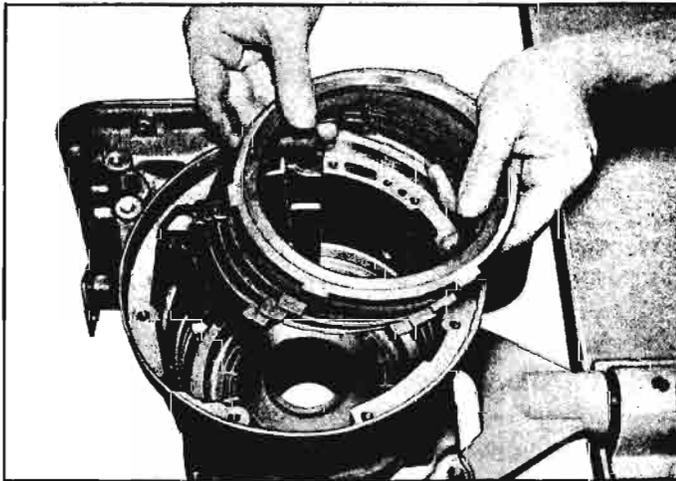

Fig. 6E-46—Installing Reverse Clutch Plates
5. Install reverse clutch plate retainer ring in such a manner so that the open ends of the ring are at the 12 o'clock position, then install the retainer ring clip (inset, fig. 6E-47) on thick reaction plate between ends of snap ring.